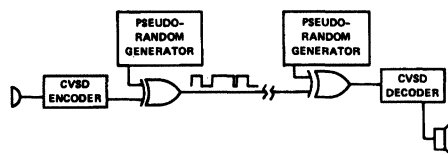
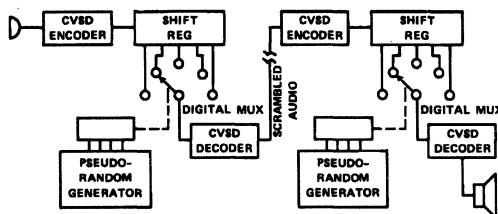

FIGURE 4A. DIGITAL TRANSMISSION ENCRPTION
FIGURE 4B. VOICE TRANSMISSION SCRAMBLING
- 2) **Secure Communications:** Digital data can be quite securely encrypted using fairly simple standard hardware (Figure 4A). Scrambled speech for audio channels may also be accomplished by encoding into a shift register, then selecting different segments of the shifted data in pseudo-random fashion and decoding it (Figure 4B).